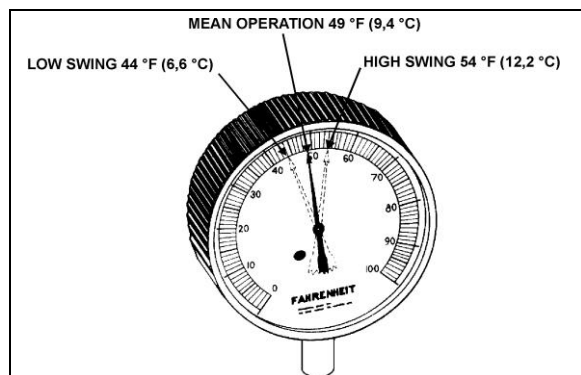

FIGURE 52: HIGH & LOW SWING TEMPERATURE AT REMOTE BULB
6. Check approximately 5 readings of pressure at 2-minute intervals and convert to temperature using the vapor-pressure table. Likewise check the temperature reading at the remote bulb at the same 2-minute intervals and record the low and high swing readings of the needle (Figure 52).